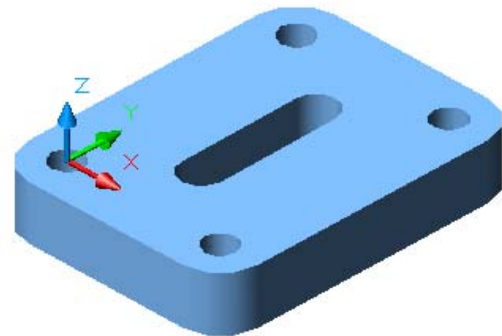

Figure Step 13A
Step 13 Your model should now appear as shown in Figure Step 13A and 13B. Use 3D Orbit to check the complete model.